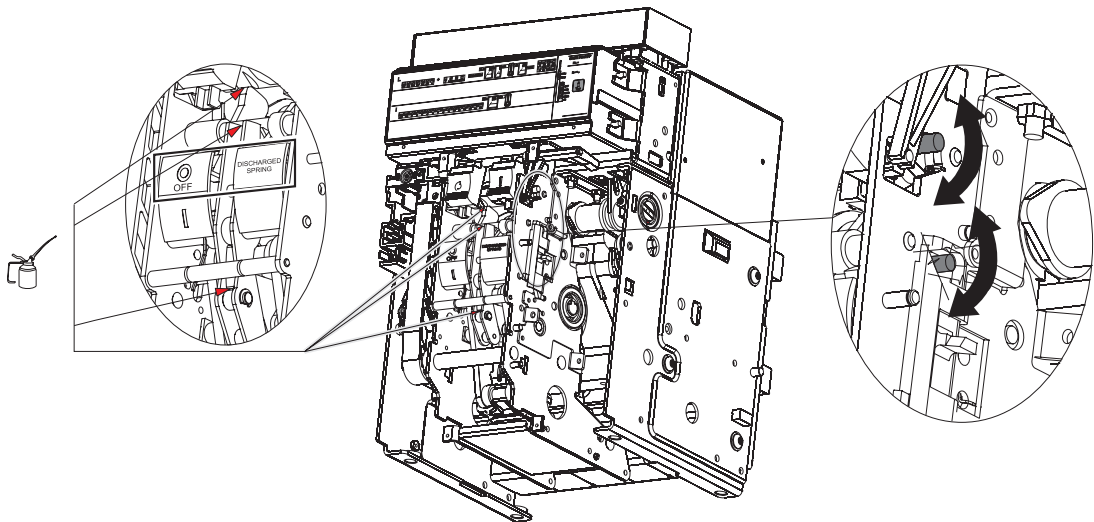

Figure 35.
- Clean at the points indicated in Figure 35. For excessive deposits, a laminated dilutant such as Henkel 273471 or the equivalent can be used.
- Lubricate, at the points indicated in Figure 35, the opening-closing shafts and hooks with MOBILGREASE 28 (EXXON MOBIL).